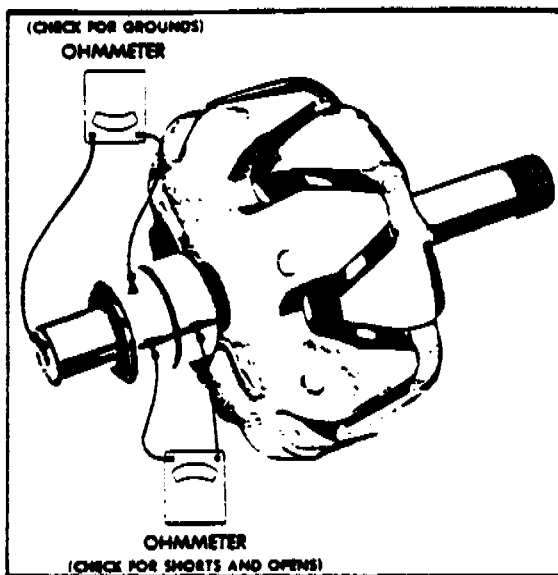

FIGURE 9-17. CHECKING ROTOR
a. Rotor Checks - The rotor may be checked electrically for grounded, open, or short circuited field coils. To check for grounds, connect a 110-volt test lamp or an ohmmeter from either slip ring to the rotor shaft or to the rotor poles. If the lamp lights, or if the ohmmeter reading is low, the field winding is grounded (Figure 9-17).
To check for opens, connect the test lamp or ohmmeter to each slip ring. If the lamp fails to light, or if the ohmmeter reading is high (infinite), the winding is open (Figure 9-17).
The winding is checked for short-circuits by connecting a battery and ammeter in series with the edges of the two slip rings. Note the ammeter reading and refer to Delco-Remy Service paragraph 9-57 for specifications. An ammeter reading above the specified value indicates shorted windings. An alternate method is to check the resistance of the field by connecting an ohmmeter to the two slip rings (Figure 9-17). If the resistance reading is below the specified value, the winding is shorted. The specified resistance value can be determined by dividing the voltage by the current given in paragraph 9-57.